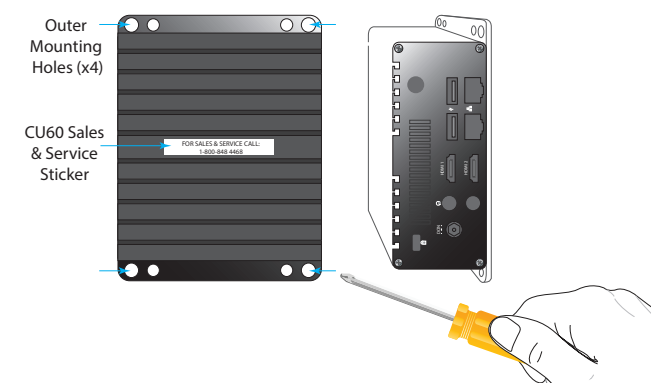

Fig. 1.6
- Mount the plated CU to the wall using the necessary hardware (screws and wall anchors if necessary); see Fig. 1.6